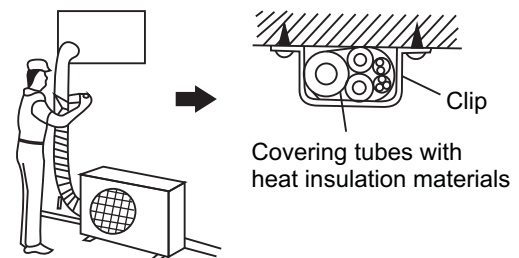

Figure 23
- (1) Tie the two refrigeration tubes (including electrical wire if permitted as regulated), water drainage hose with white tape.
- (2) Wrap half of the tubes outside the room starting from the end. (Figure 23)